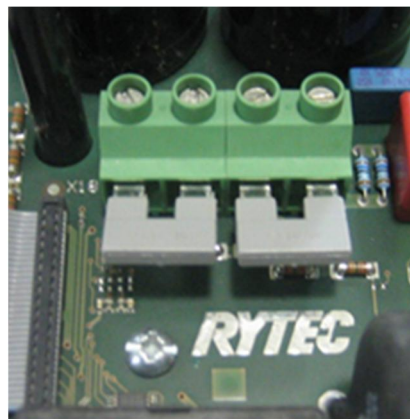

Figure 6
The terminal block contains either two (2) of the grey “clip” jumpers or one (1) jumper wire. To configure the phase jumper for single phase remove the phase jumpers and install as shown in figure 6. *NOTE: If you have the single jumper wire, you will need to add a second jumper to achieve the correct configuration.*